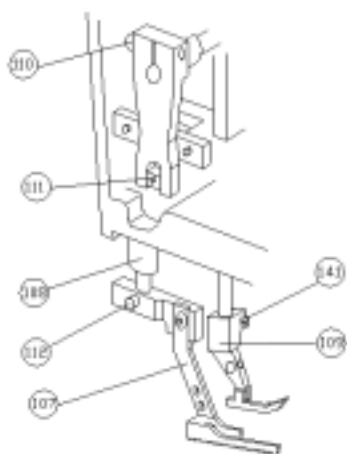

FIG. 43
Insert the mechanically actuated pressure foot (107) in its bar, in a cycle of the machine in which feet dog is below the throat plate. FIG. 43. Adjust the elbow joint to obtain a distance of about 0.3 mm between the guide and the pressure foot transport support (108). Once this has been done, block the foot, which should rest on the throat plate and be set parallel to it. Insert the stitch mechanism (see sec.26) and the jointed pressure foot (109) in there bar. Turn the hand-wheel to bring the feet dog to the lowest point of its stroke. Fix the pressure foot (109) by pushing it onto
the throat plate and check that it is parallel to the mechanically actuated pressure foot and the throat plate. Check that the two pressure feet (107 - 109) rise the same distance above the throat plate. This distance can be adjusted by the screw (141). FIG. 43.